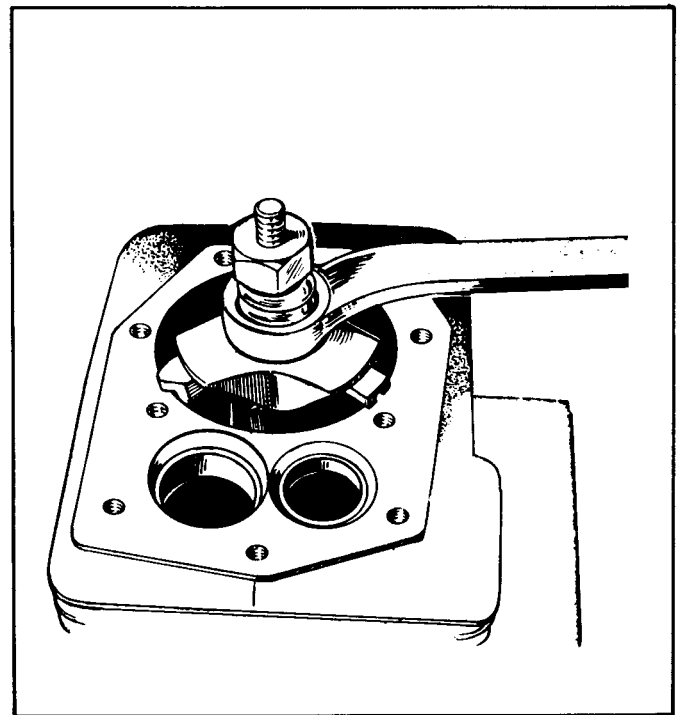

FIGURE 7. REMOVING RIDGE FROM THE CYLINDER
3. Remove the ridge from the top of each cylinder with a ridge reamer (if necessary) before attempting piston removal (Figure 7). Forcing the piston from the cylinder before reaming may cause damage to the piston lands.